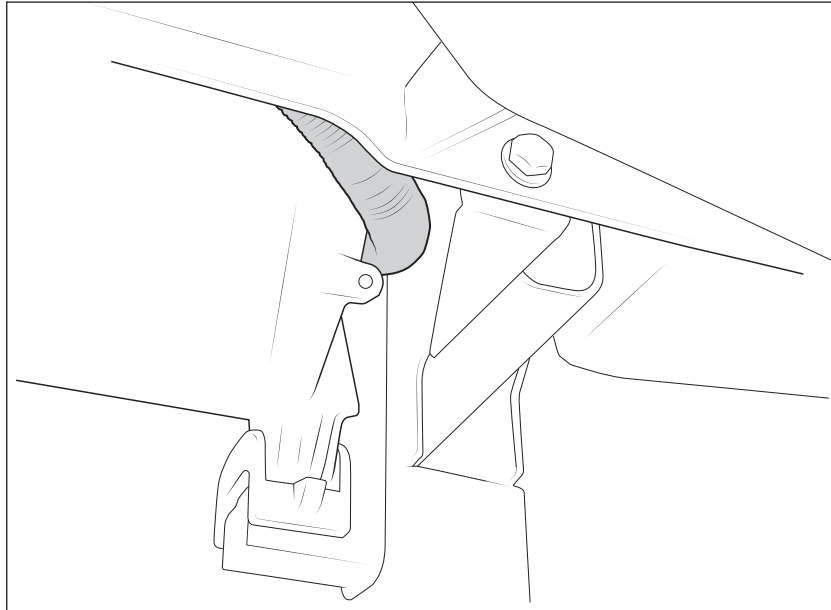

Figure 25
6. Route the winch wiring as shown (fig. 25).